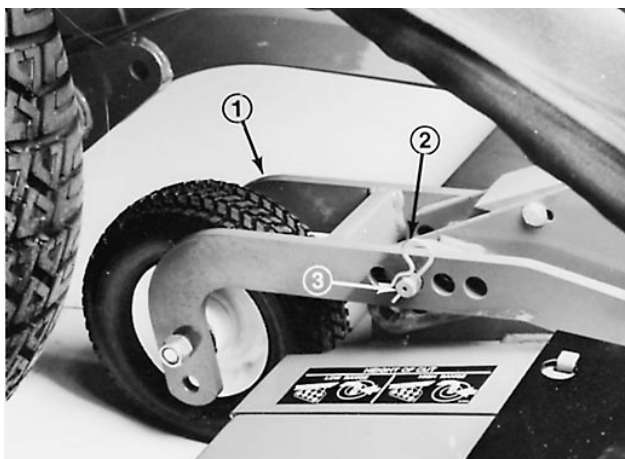
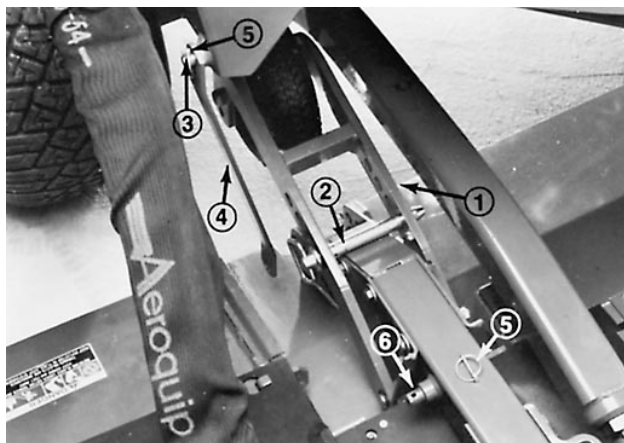

Figure 57
Figure 58
3. Remove the hairpin cotters and clevis pins from the (2) rear castor assemblies (Fig. 57). Set the left-hand clevis pin aside and insert the right-hand clevis pin into the most forward holes in the castor wheel arm on the right side of the unit (Fig. 58). The castor arm and pin should be resting on top of the unit.
5. Fit the deck tilt link over the weldment on the right side of the traction unit and secure with a klik pin. Position a link so it clears when the cutting unit is raised. Keep the remaining klik pin handy to secure the opposite end of the link to the cutting unit arm weldment (Fig. 58).